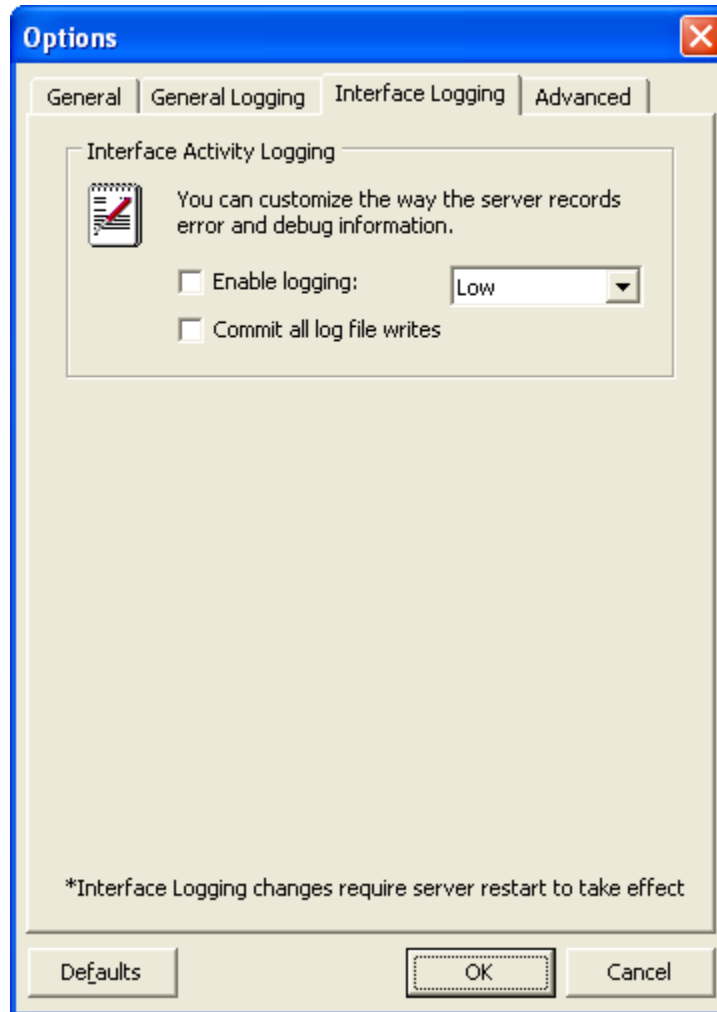

Figure 7 - Interface Logging Options Tab
3. From the **Options** window, select the **Interface Logging** tab (Figure 7).